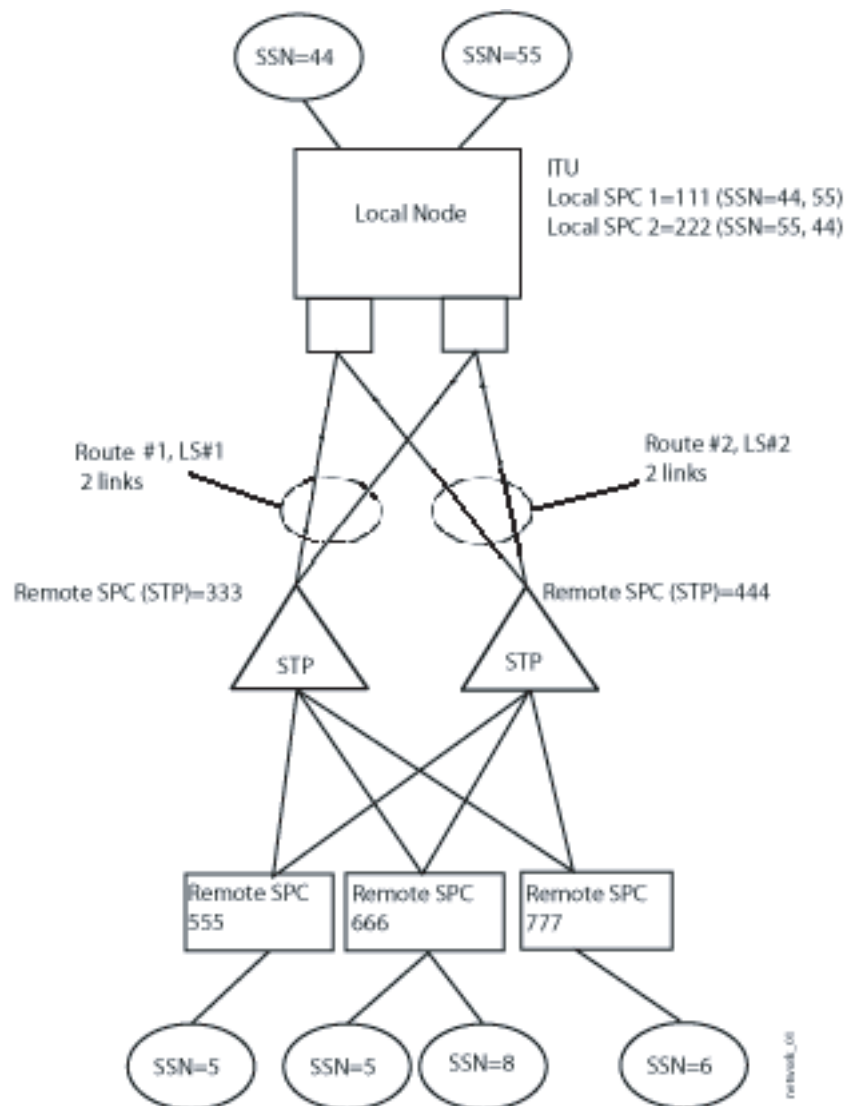

Figure 1 Network Configuration Example
— A single node, see Figure 1
- To make sure that there are always links running during node upgrade or similar, it is recommended to always split links between FEs, so called redundant links, according to Figure 1.
The first condition below (Configuring SS7, MTP-L2 IF ISR - NB,HSL or Configuring SS7, MTP-L2 IF ADAX- NB,HSL) should be met to be able to perform the Example configuration in this text. The example is shown in Figure 1. The other two conditions below are not described in the example, but can also be used as a base for network configurations.
Add the routes and routesets according to the below figure to complete the Example for **LocalSPC:111**, see also Figure 1.